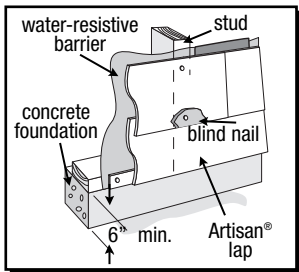

FIGURE 7
- Install siding and trim products in compliance with local building code requirements for clearance between the bottom edge of the siding and the adjacent finished grade (fig. 7).
- Install James Hardie® products with a minimum 6" clearance to the finished grade on the exterior of the building or in accordance with local building codes if greater than 6" is required (fig. 7).